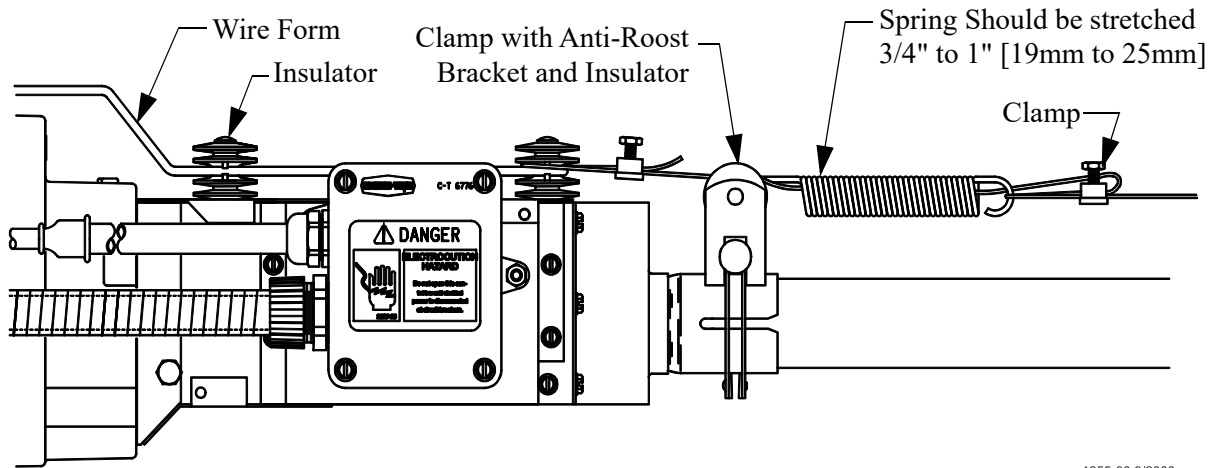

Figure 40. Anti-Roost Installation at the Control Unit
9. At the control unit, after clamping the cable to the spring, cut the cable about 8" to 10" [200 to 250 mm] longer than necessary. Feed the end of the cable through the center of the spring, around the first insulator on the control unit, and clamp the cable using the cable clamp supplied with the control unit. (See **Figure 40**). Install the wire form on the control unit insulators. Be sure the guard snaps into the retainers molded into the insulators. (See **Figure 40**).